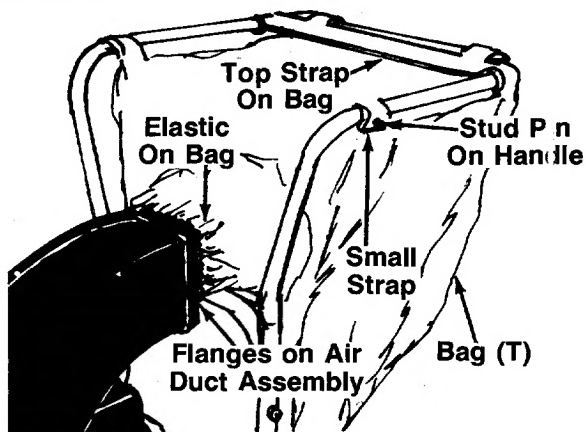

FIGURE 8.
2. Assemble the bag by slipping the top straps on bag (T) over upper handle. Hook two small straps over stud pins on handle. Slip elastic opening of bag over air duct assembly. Be certain elastic on bag is placed over the flanges on air duct assembly. See figure 8.